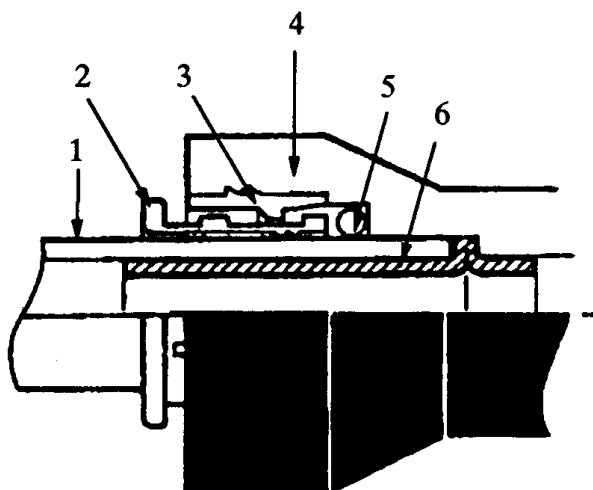
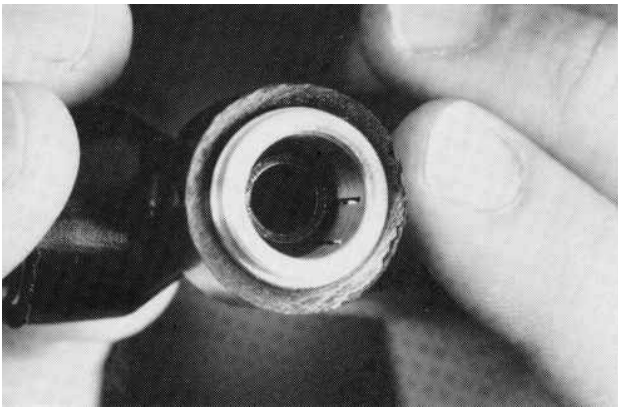

Figure 101 Quality Connect Air System
Figure 110 Install New Collet
The Quality Connect system is being used on some International vehicles. The Quality Connect fittings are threadless. A collet in the fitting (Figure 101) bites into the tube to hold it firmly in place. The fitting O-ring (Figure 101) seals the tube to the valve, manifold or tee body to prevent leakage. To aid in service, a kit is available with tools for each port and tube size used by International.
5. Push down on the release tool, then pull on the tube. Pushing the tool depresses the fitting collet, allowing it to release the tube. Sometimes the brass tube support (Figure 101) will be pulled out of the fitting when the tube is removed. Be sure to reinstall a tube support when installing the tube.
13. Install a new collet. Hand pressure alone is enough. It will click when it is seated properly (Figure 110). In addition, the collet will push the O-ring into its fully seated position (Figure 101).